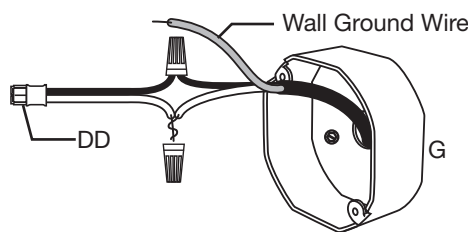

Fig 4
2. Remove Mounting Plate (B) from Light Fixture (A) by removing pre-installed Mounting Plate Screws (AA).
3. Align Mounting Plate (B) on wall centering over Electrical Box (G). Make certain the Mounting Plate bottom is facing downward.
4. Mark location of Wall Mounting Screw Holes (D) with pencil/pen.
5. Remove Mounting Plate (B) from wall and drill holes using 7mm (9/32”) drill bit
6. Insert Plastic Wall Anchors (FF).
7. Wire Capstone Quick Connector (DD) to Electrical Box (G) using Wire Nuts (CC) (white wire to white wire and black wire to black wire) (Fig 4).